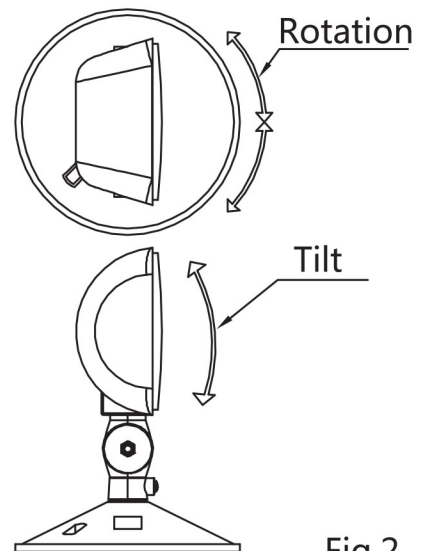

Fig.2
- (1): Make wires connections. Observe polarity (if required); connect the lamp to the DC supply wires; positive and negative are identify with labels on each wire (when indicated).
- (2): Install the canopy to the Junction Box with the Mounting Screws (not included).
- (3): Install the lamp(s) gently to avoid breaking the pins.
- (4): Apply power.
5.2.2、HEADS ADJUSTMENT (Fig.2)